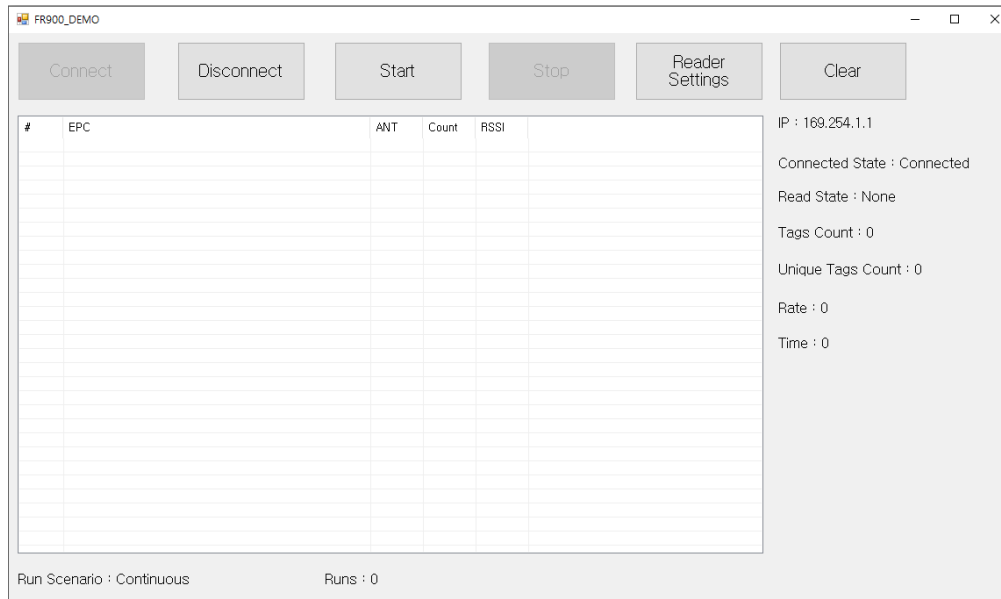

Figure 4.1 DemoApp initial screen
1. Launch the DemoApp. The screen shown in Figure 4.1 displays.